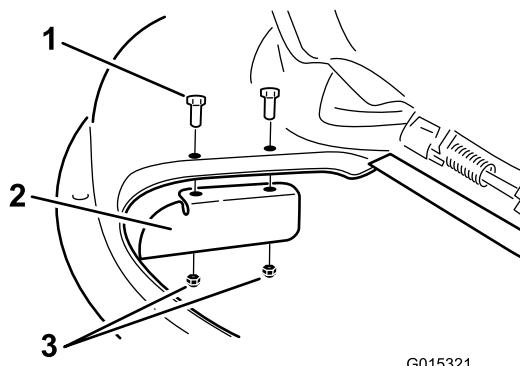

Figure 30
- Install the cutoff baffle to the mower deck (Figure 30).
3. Remove the cutoff baffle from the mower deck (Figure 30).